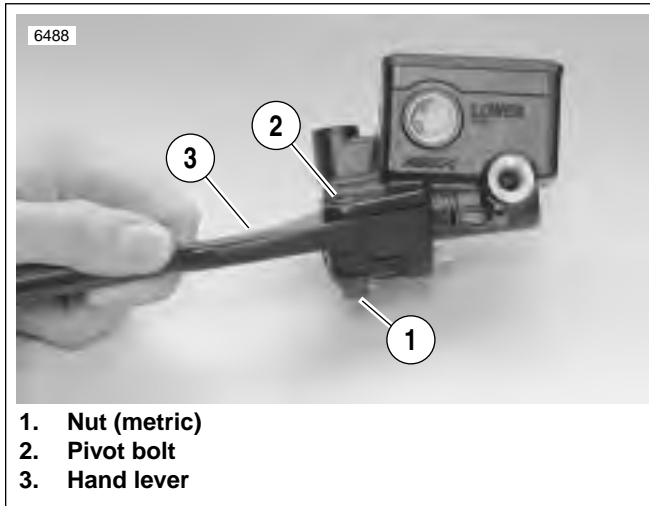
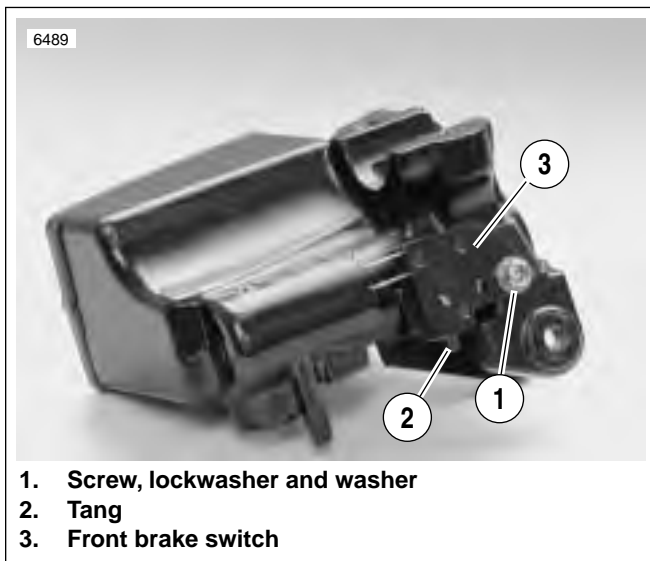

Figure 2-29. Hand Lever
Figure 2-30. Front Brake Switch
1. See Figure 2-29. Detach front brake hand lever.
- a. Remove nut (1) (metric) from lever pivot.
- b. Remove pivot bolt (2) from lever pivot.
3. See Figure 2-30. Remove screw, lock washer and washer (1) holding front brake switch (3) to master cylinder assembly. Remove switch.
2. Insert piston assembly, spring first, into master cylinder. Secure with a **new** snap ring (6).
3. Install ridge on boot (5) into groove on piston (4).
4. See Figure 2-29. Install front brake hand lever.
- b. Lubricate pivot bolt (2) with LOCTITE ANTI-SEIZE.
- d. Install nut (1) (metric). Tighten to 44-62 **in-lbs** (5-7 Nm).
5. See Figure 2-30. Install front brake lamp switch (7).
- a. Attach front brake switch with screw, washer and lockwasher (1). Tighten to 7-13 **in-lbs** (0.8-1.5 Nm).